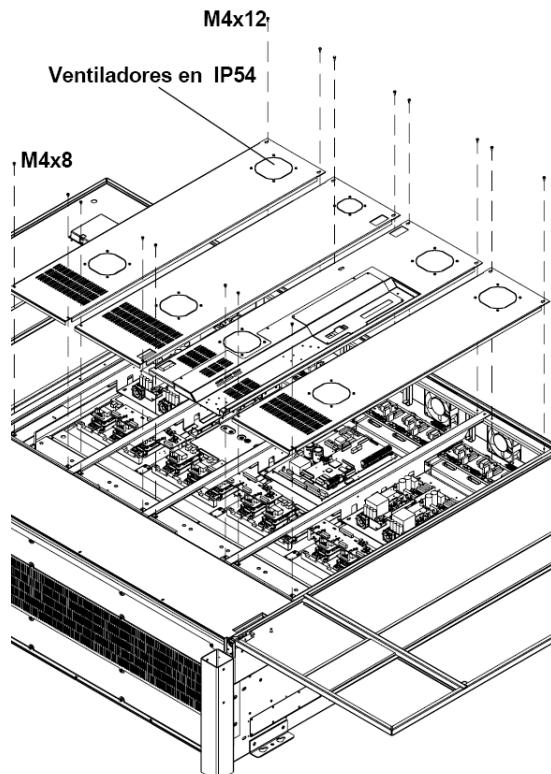

Figure 7.2 Disassembly of the covers
- 1) Place the covers in the chassis as is shown in the *figure 7.2*.